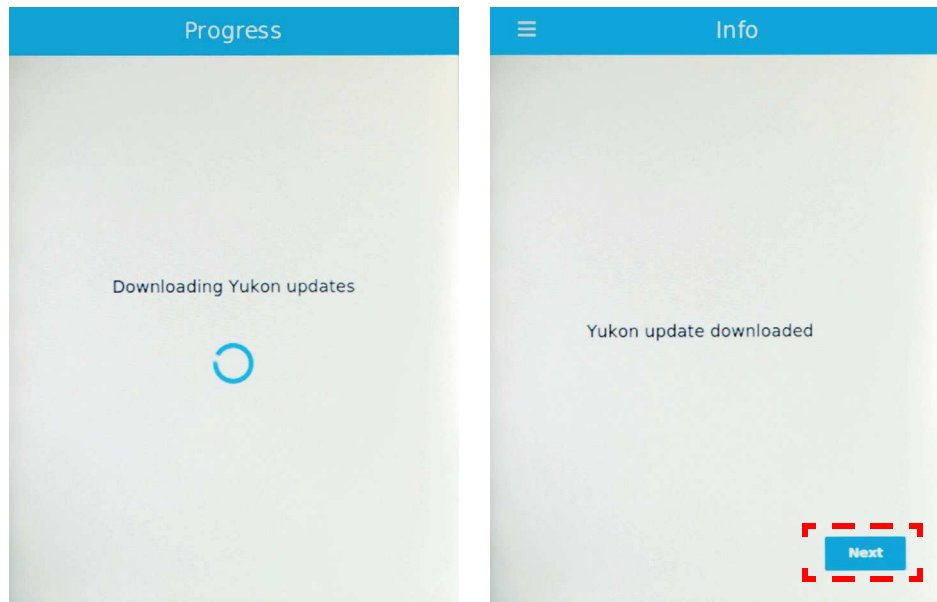

Figure 4-12 Validator Initialization (Workshop) 7
- Step 14** Yukon updates will be downloaded. After successful download, press the <Next> button on the screen (see **Figure 4-12**).